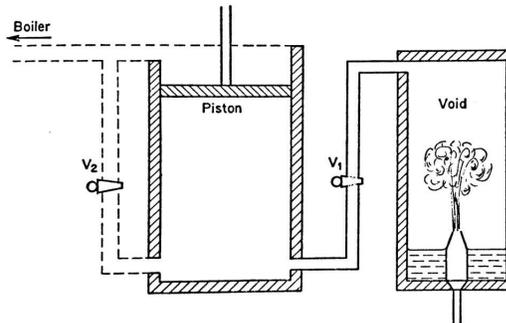

Fig.2. James Watt's two-cylinder engine.²
- Also used low-pressure steam to help push piston down. (see Fig. 2)